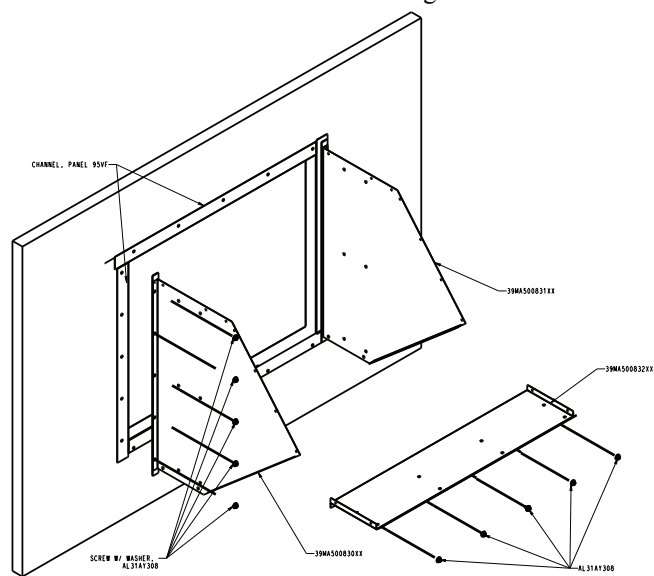

Fig. 70 — Attaching the Side Panels and Bottom Panel
7. First, attach side panels to return/exhaust fan opening using the $\frac{1}{4}$ in.-14 x $\frac{3}{4}$ in. sheet metal screws (with neoprene washers.) Then attach bottom panel using similar sheet metal screws. See Fig. 70.